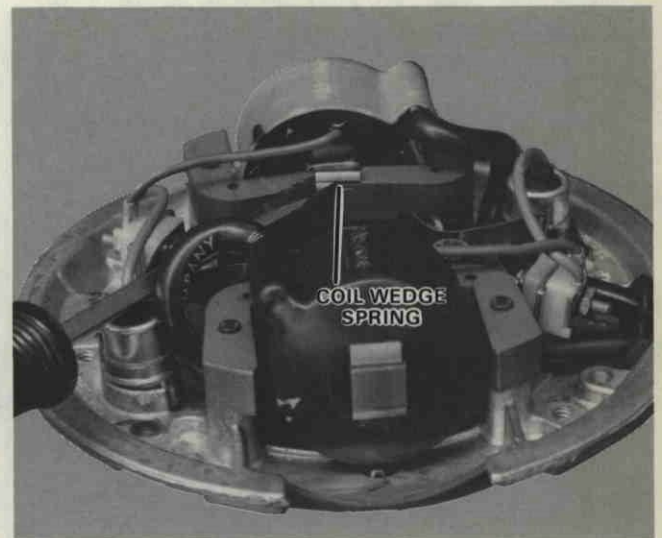

Figure 35. Removing Coils.
6. Pry lip of coil wedge spring up from coil laminations as shown in Figure 35.